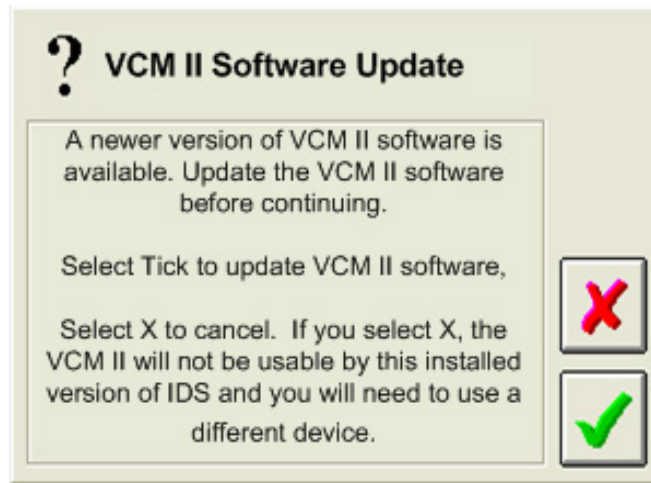

FIGURE 3: **VCM II** SOFTWARE UPDATE POP-UP WINDOW
IDS will notify you if the **VCM II** software version is out of date. In this case, **IDS** will prompt you to update the **VCM II** software with the pop-up window shown in Figure 3. The pop-up window may contain additional information if there are applications, such as the Customer Flight Recorder, installed on the **VCM II**.
10. The IDS pop-up window shown in Figure 3 will appear notifying the user that a new version of VCM II software is available. Select the *Tick* button to update the VCM II software.